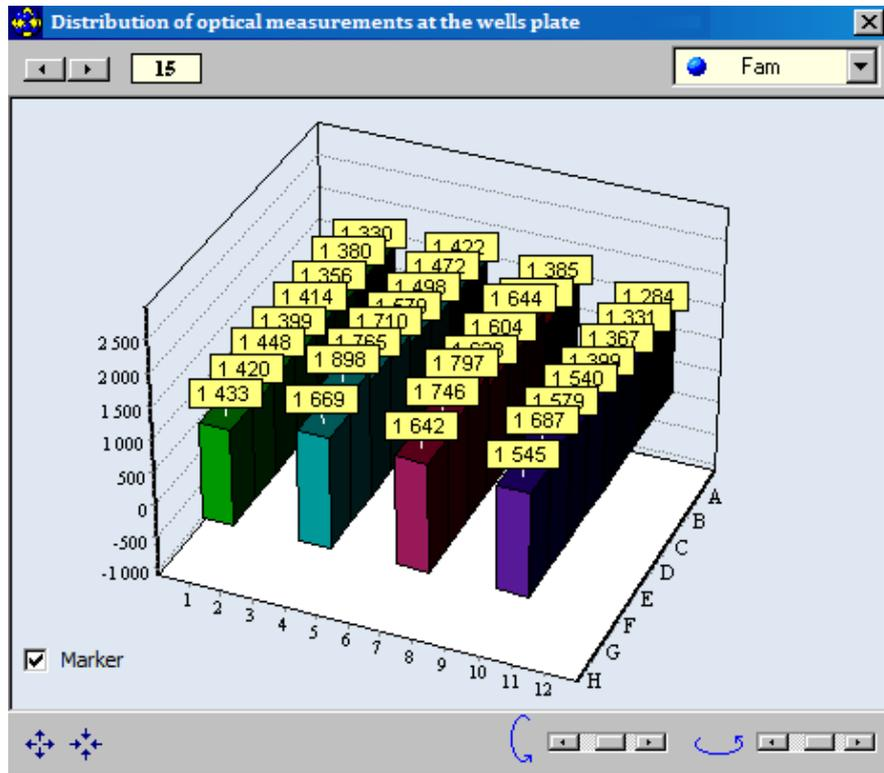

Fig.28. Distribution of optical measurements over the plate window
- to check optical measurement data of the selected tubes in the form of 3D histogram in the **Distribution of optical measurements over the plate** window by clicking  (Fig. 28).